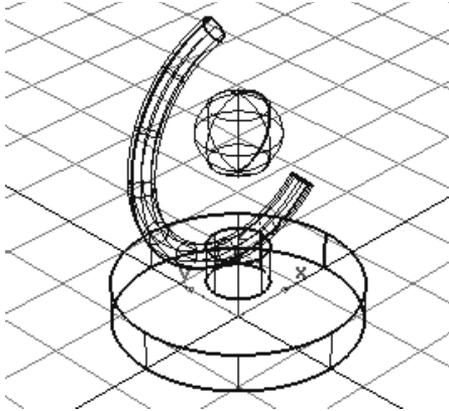

Figure 2-104 Sphere created for the globe
2. Enter **0, 0, 250** in the promptline and press ENTER; the globe is created in the window, as shown in Figure 2-104.